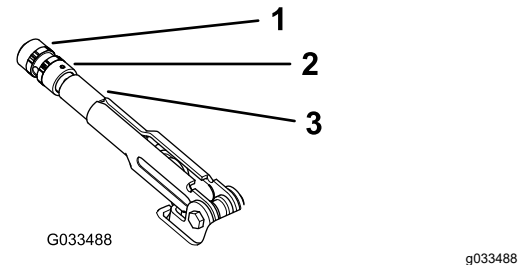

Figure 60
3. Rotate the knob (Figure 60) until a force of 20 to 22 kg (45 to 50 lb) is required to actuate the lever.
4. Tighten the set screw when finished (Figure 60).